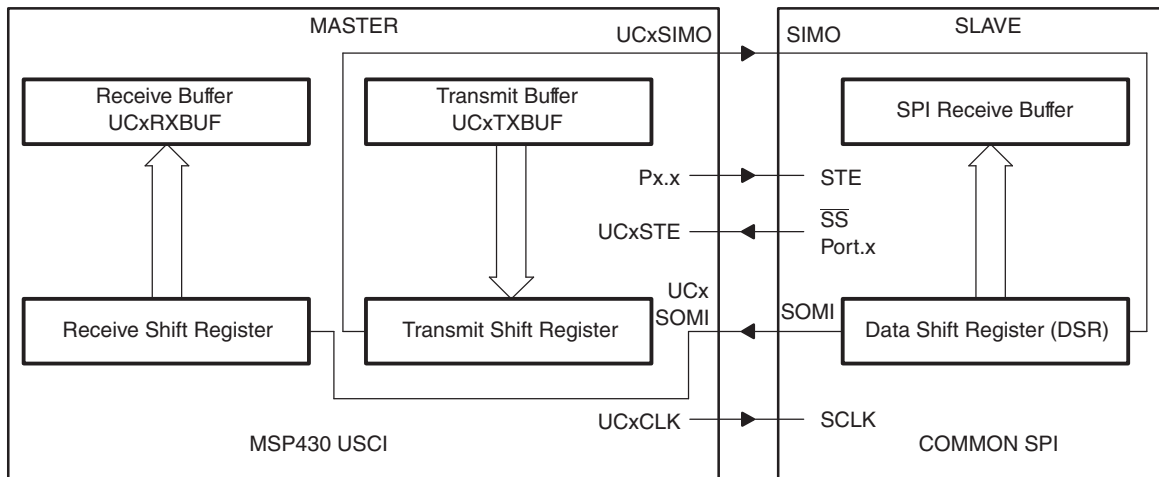

Figure 20-2. USCI Master and External Slave
Figure 20-2 shows the USCI as a master in both 3-pin and 4-pin configurations. The USCI initiates data transfer when data is moved to the transmit data buffer UCxTXBUF. The UCxTXBUF data is moved to the transmit (TX) shift register when the TX shift register is empty, initiating data transfer on UCxSIMO starting with either the MSB or LSB, depending on the UCMSB setting. Data on UCxSOMI is shifted into the receive shift register on the opposite clock edge. When the character is received, the receive data is moved from the receive (RX) shift register to the received data buffer UCxRXBUF and the receive interrupt flag UCRXIFG is set, indicating the RX/TX operation is complete.